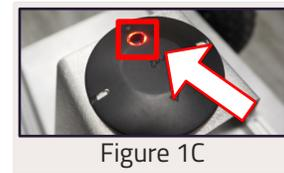

Figure 1C
5. To arm the GPS module, press and hold down the blinking red button. Do this until the button's light turns solid red. (Fig 1C).